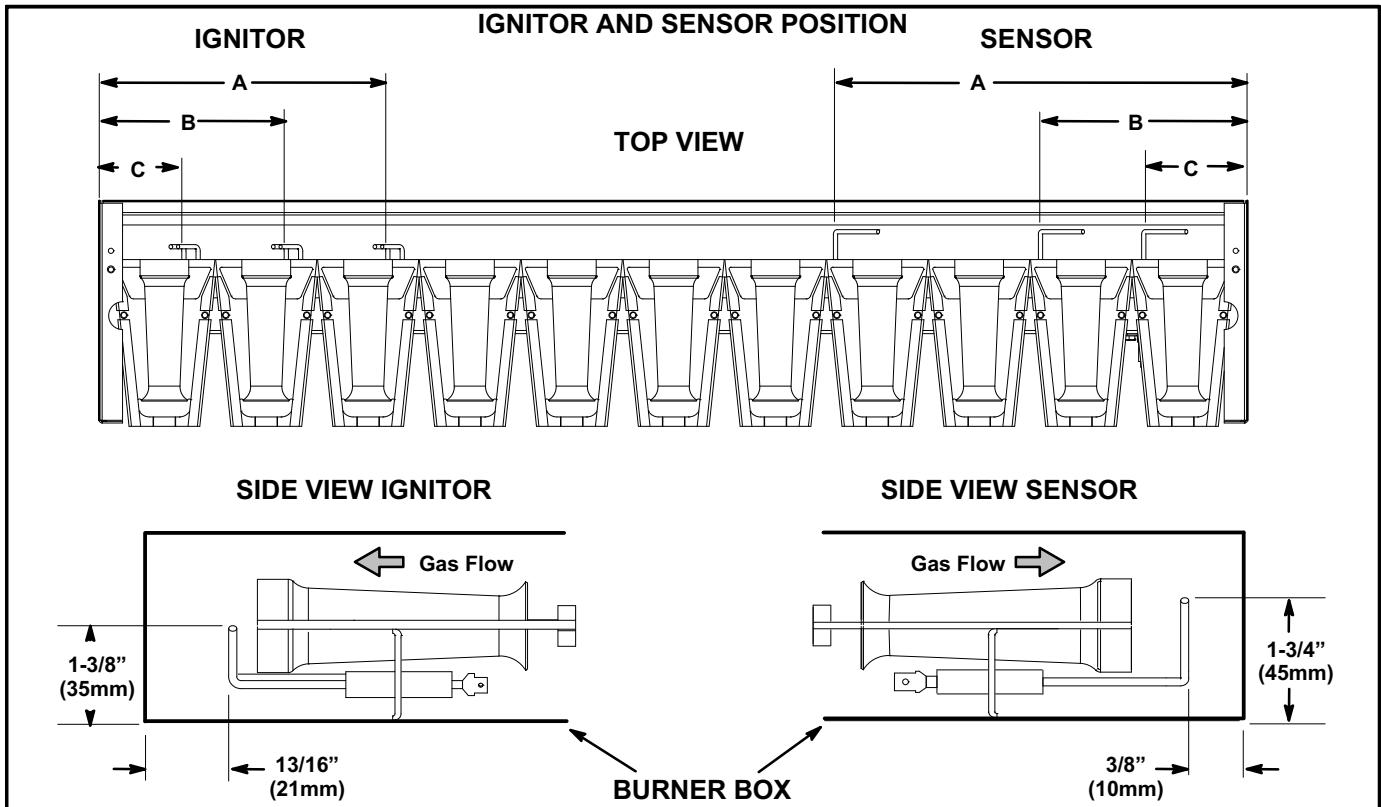

FIGURE 30
- 5- Check the alignment of the ignitor and the sensor as shown in figure 30 and table 21.